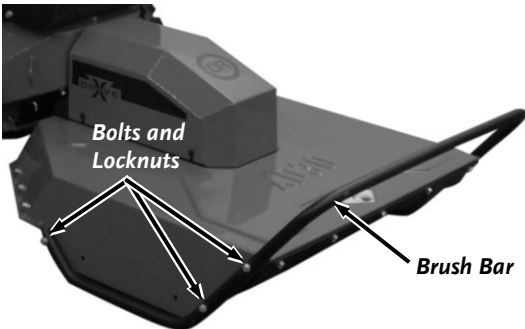

Figure 7
1. Cut the Cable Ties securing the Brush Bar to the Frame with Wire Cutters and rotate the Brush Bar forward to align with the mounting holes at the front of the Deck. (**Figure 7**).